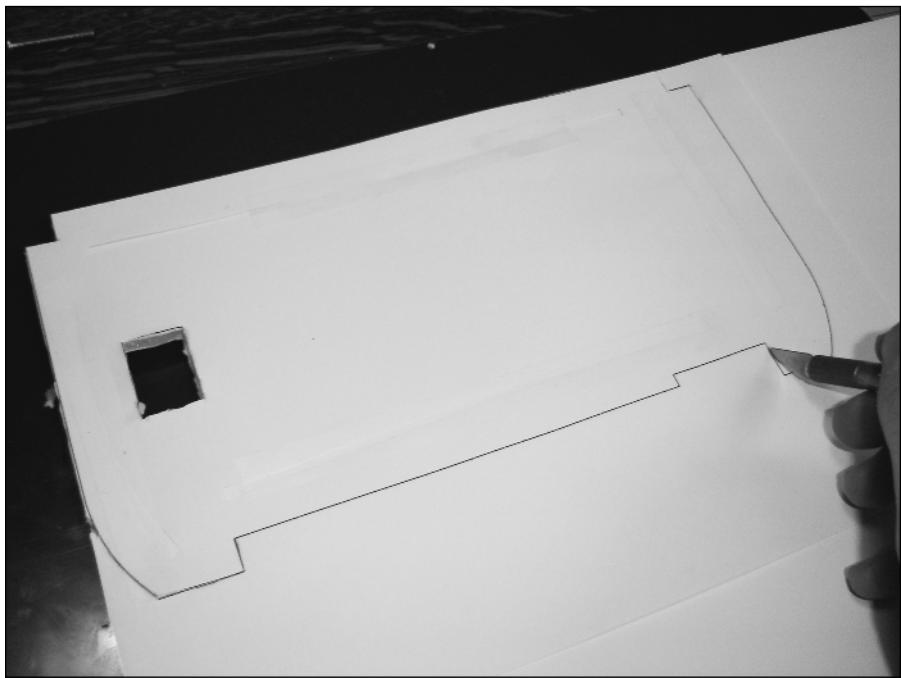

FIGURE 7-15: Cutting the 1/4" spacer. An X-Acto foam board is shown here.
1. Print the file “NES Foam Spacer.pdf” from the companion Web site. Tape this pattern down on a piece of 1/4"-thick spacer material, and cut through the material along all lines, as seen in Figure 7-15. If you’re using foam board, you can slice all the way through the pattern and the material in one pass.